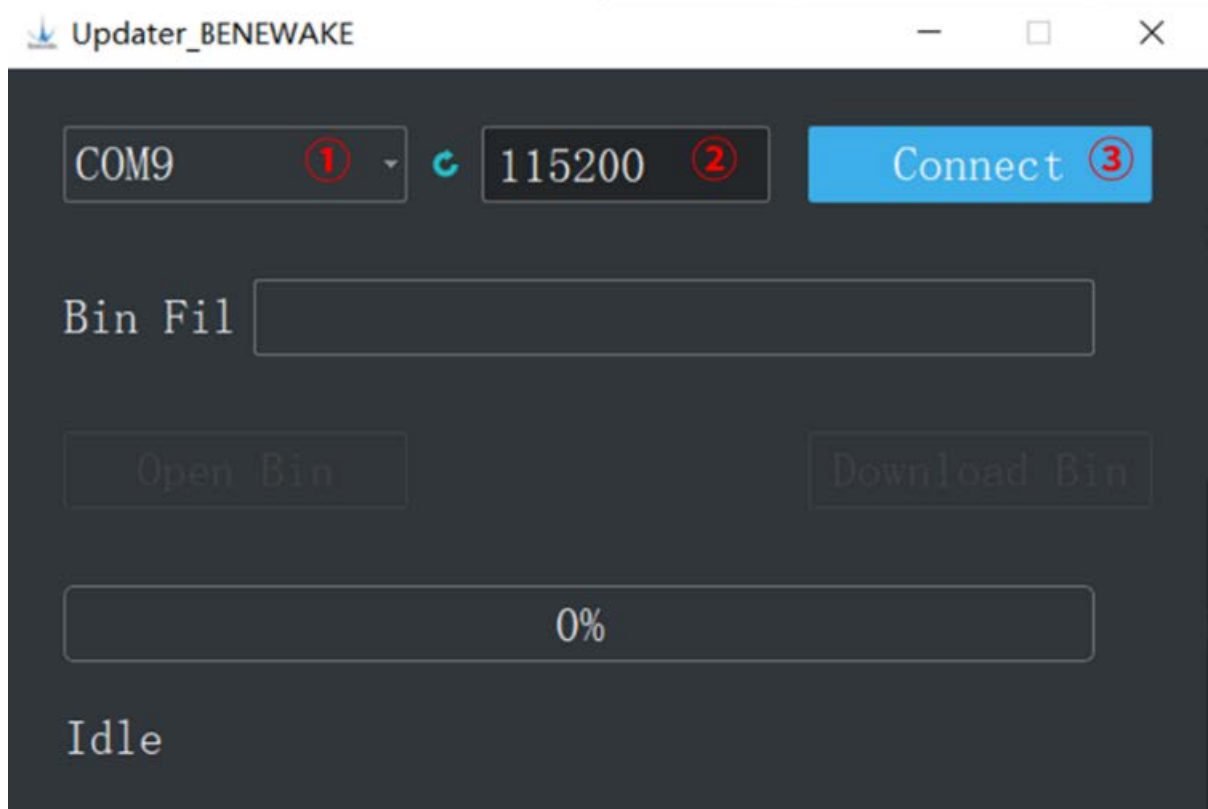

Figure 6-1 Connect the TF02-Pro with the software
1. Run Updater_BENEWAKE.exe, Select right port, here is “①COM9”. Input the right baud rate in “② 115200” and
click “③ CONNECT” to connect the TF02-Pro with the software. As shown in Figure 6-1.